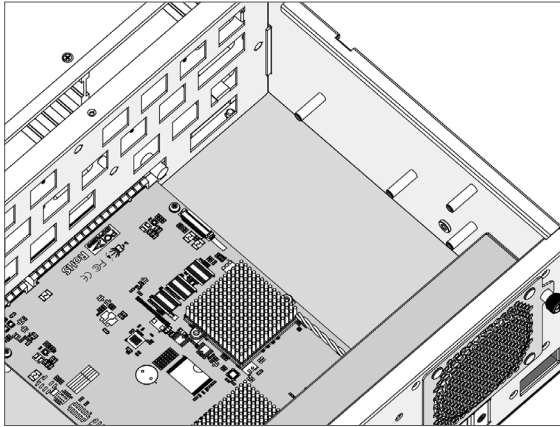

Figure C-5, Removing the Cover
1. Loosen the screws and remove the cover from the ARC-7316 enclosure, as shown in Figure C-5.